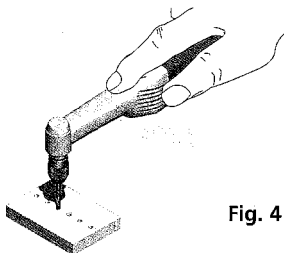

Fig. 4
2. Gerät so halten (Fig. 4), daß die
2. Hold drill as shown in Fig. 4 so as not to obstruct the ventilation slits 1.